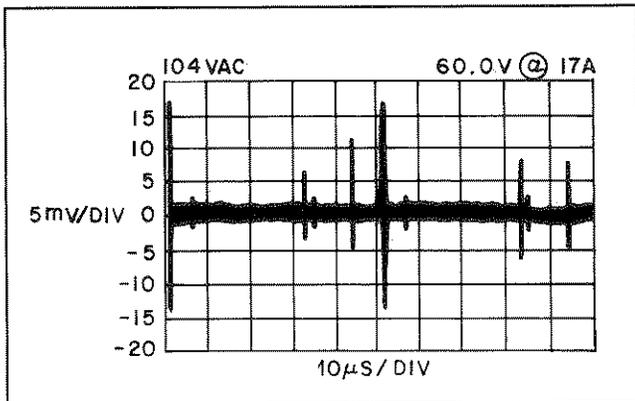

Figure 5-5. 20 kHz Noise, CV Peak-to-Peak PARD
- controls to show the 20 kHz and higher frequency output-noise waveform of Figure 5-5.